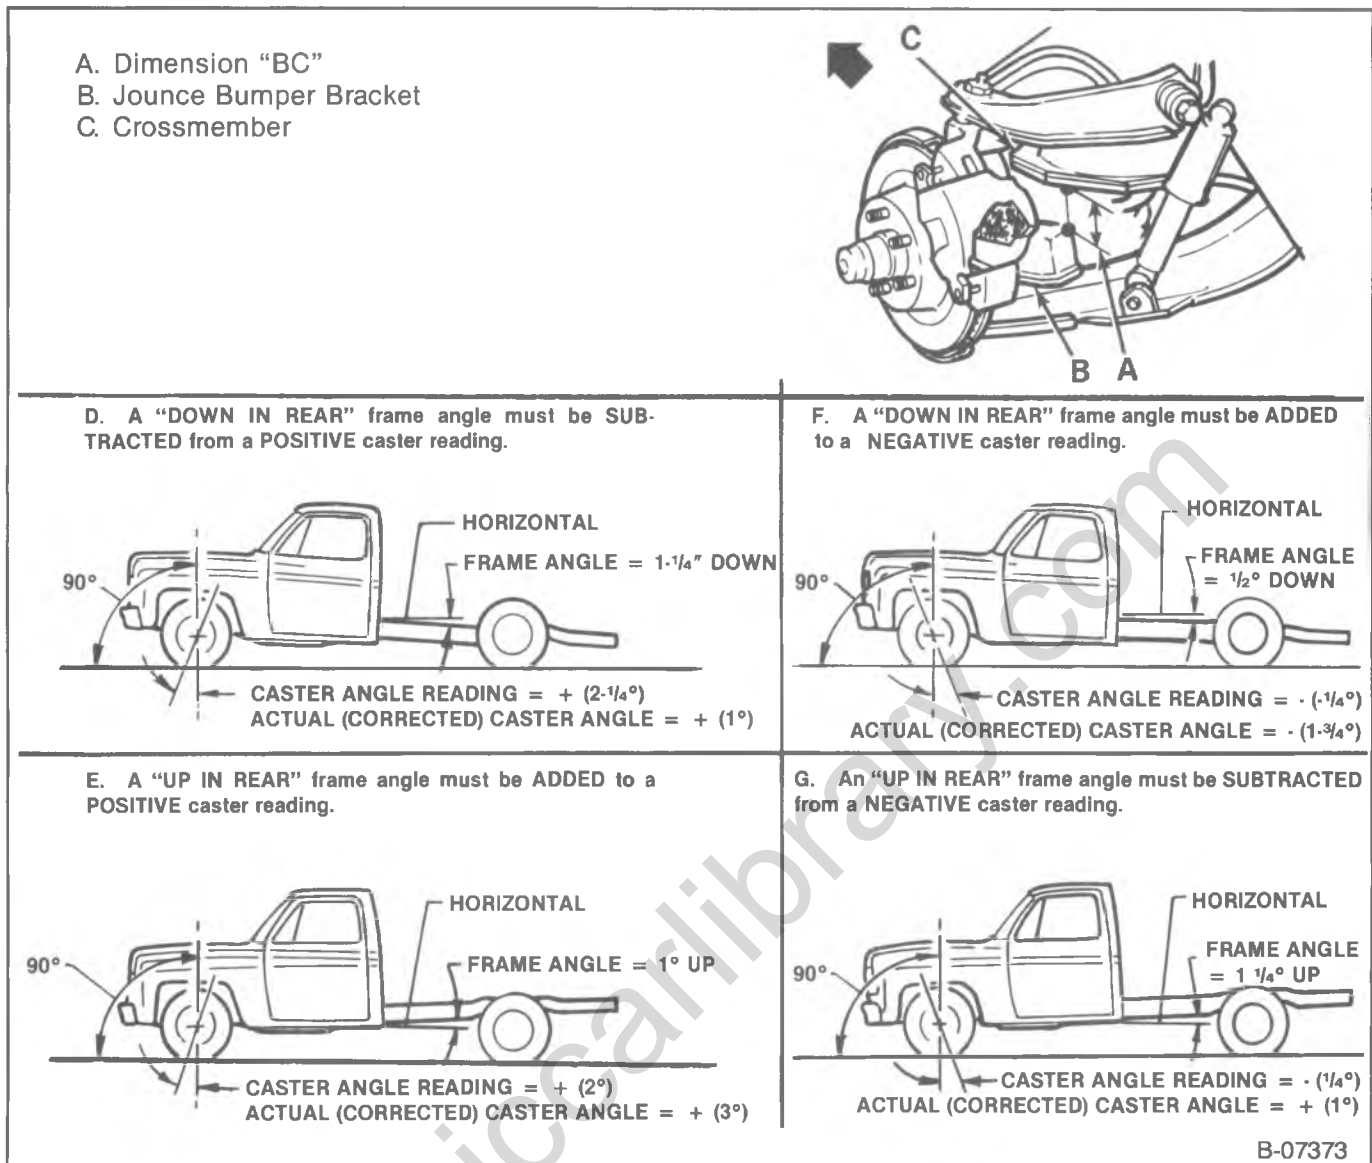

Figure 2—Determining Caster
Inspect (Figure 2)
5. Dimension "BC" in (figure 2). If not within specifications, the correction must be made before adjusting caster.
How To Determine Caster (Figure 2 and 3)